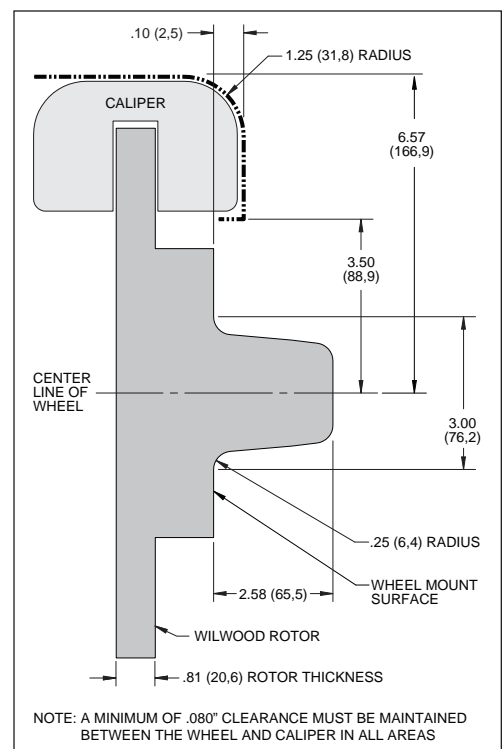

Figure 2. Wheel Clearance Diagram
- Verify your wheel clearance using Figure 2.
- **WARNING:** The wheel contact surfaces must seat completely on the face of the hub. If any contact surfaces overhang the outside diameter of the hub face, a 6.60" diameter x .20" thick spacer (item 27, Wilwood P/N 300-11961) MUST be used between the wheel and the hub.